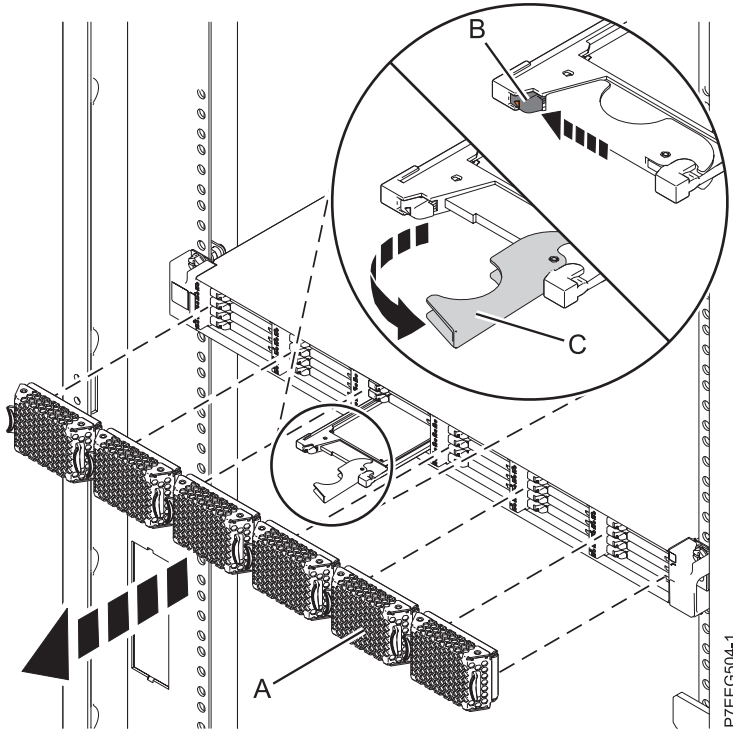

Figure 40. Removing the solid-state drive from the 5888 PCIe storage enclosure
1. Pull off the bezel (A) that covers the slot that contains the solid-state drive. See Figure 40 on page 60.
2. Slide the release latch (B) over gently to unlock the drive handle.
3. Grasp the handle (C) and pull the drive partially out of the slot.